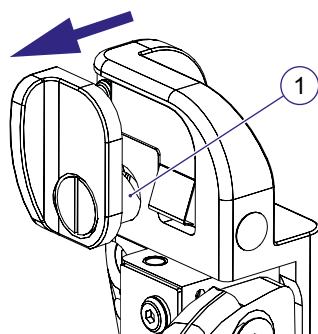

Figure 5.73 Locking lever sliding out
By means of a spring, the lever will slide out. The through pin (1) (see Figure 5.73) that meets with the immobilization device also slides out and releases the immobilization device, if attached.